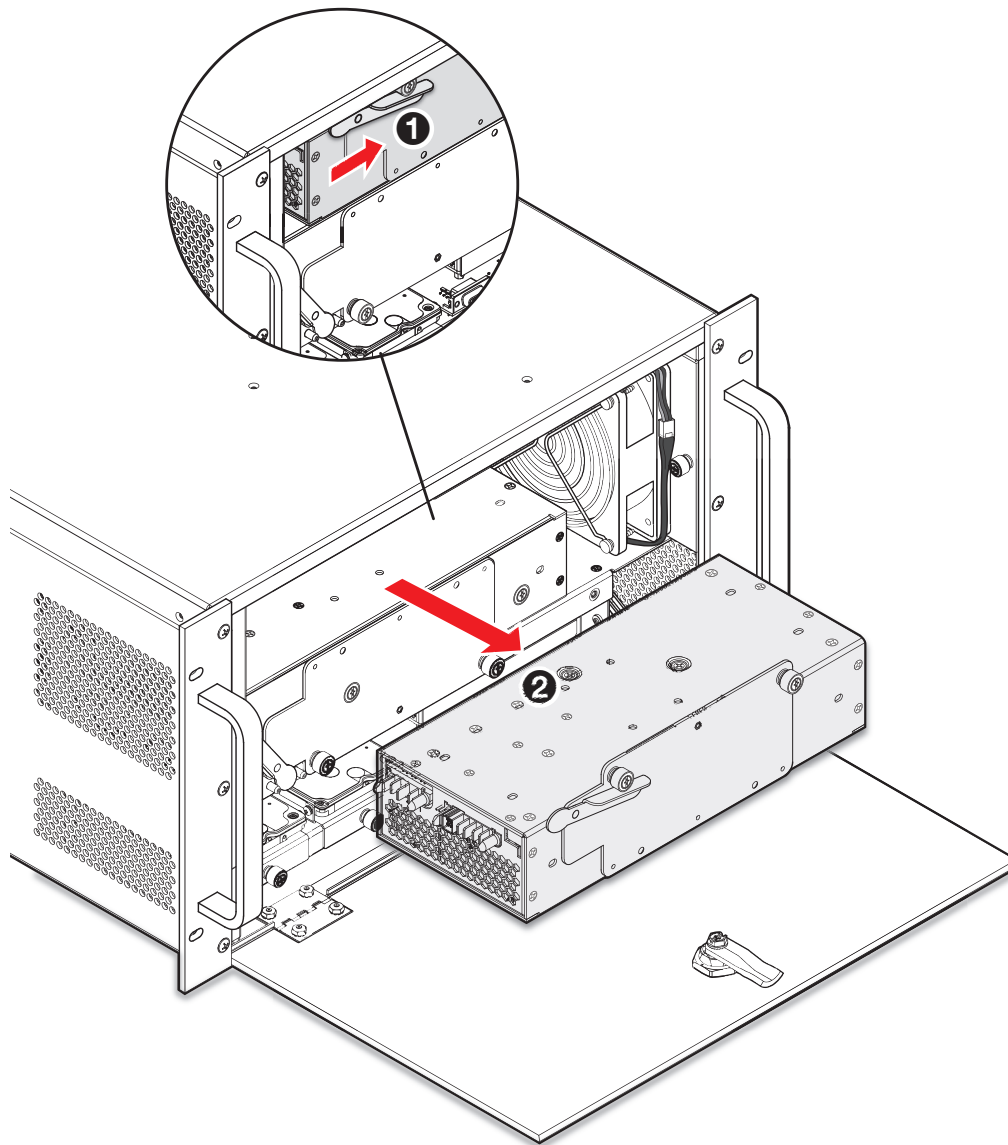

Figure 2. Rotating the Latch and Sliding the Primary Power Supply to the Right and Out
4. As you rotate the lever, the power supply slides to the right. If necessary, continue sliding the PSU to the right as far as possible (see figure 2, ①).